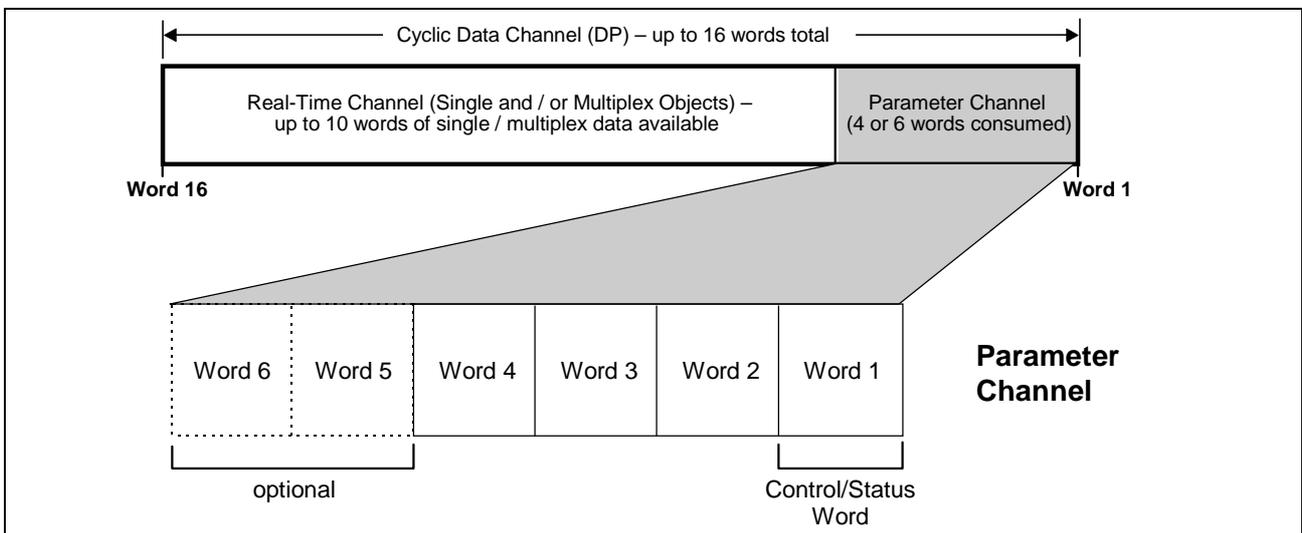

Figure 4-4: The Non-Cyclic (DP) Channel
If this feature is desired, the first 4 or 6 data words of the cyclic channel for the slave board must be allocated for non-cyclic transmissions. This portion of the cyclic channel is subdivided as the parameter channel. The remainder of the cyclic channel is called the real-time channel (see **Figure 4-4: The Non-Cyclic (DP) Channel** below).